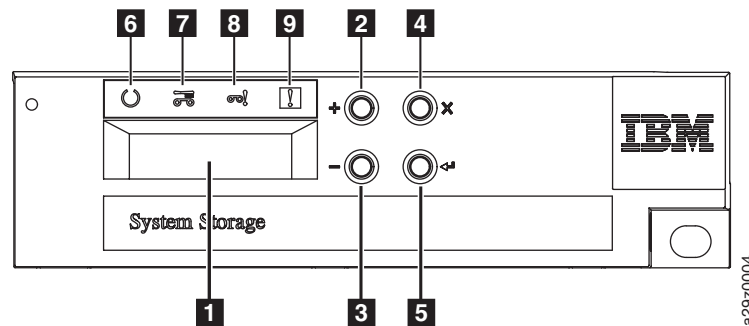

Figure 2-1. Operator Panel components
- The **Ready/Activity LED (6)** in Figure 2-1 on page 2-1) turns ON any time the unit is powered ON and functional. The Ready/Activity LED flashes whenever there is library or drive activity. This LED also flashes when the library is offline.
- The **Clean Drive LED (7)** in Figure 2-1 on page 2-1) turns ON when a “cleaning required” command is issued by the drive. The LED turns OFF after a successful drive cleaning operation.
- The **Attention LED (8)** in Figure 2-1 on page 2-1) turns ON to indicate that there is a piece of media which is bad/marginal, or invalid. The LED turns OFF when all marginal and invalid cartridges have been exported from the library. The Attention LED also turns ON if Autoclean is enabled and no cleaning cartridge is in a cleaning position.
- The **Error LED (9)** in Figure 2-1 on page 2-1) turns ON when there is an unrecoverable drive or library failure. An error message is displayed on the screen and the LED remains ON until the error state is resolved.